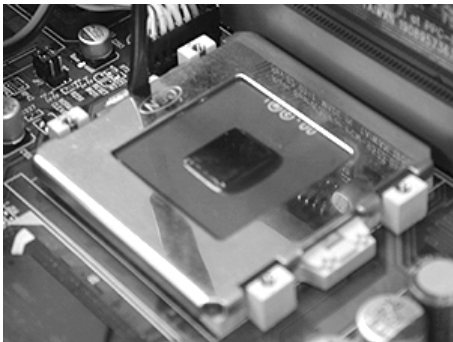

Figure 2.3: Place CPU push cover over CPU
4. Place the metal CPU push cover on the top of the CPU as shown in figure 2-3.